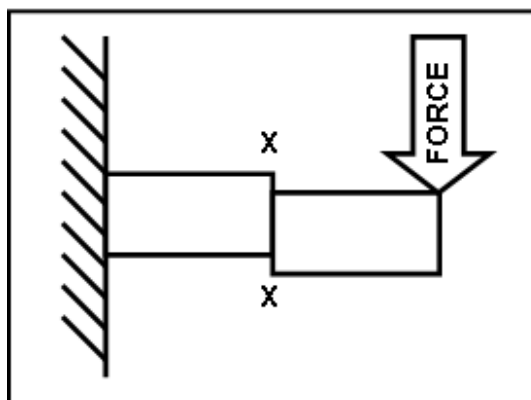

FIGURE 4.7
4.7 What does FIGURE 4.7 below represent regarding points **X–X**?